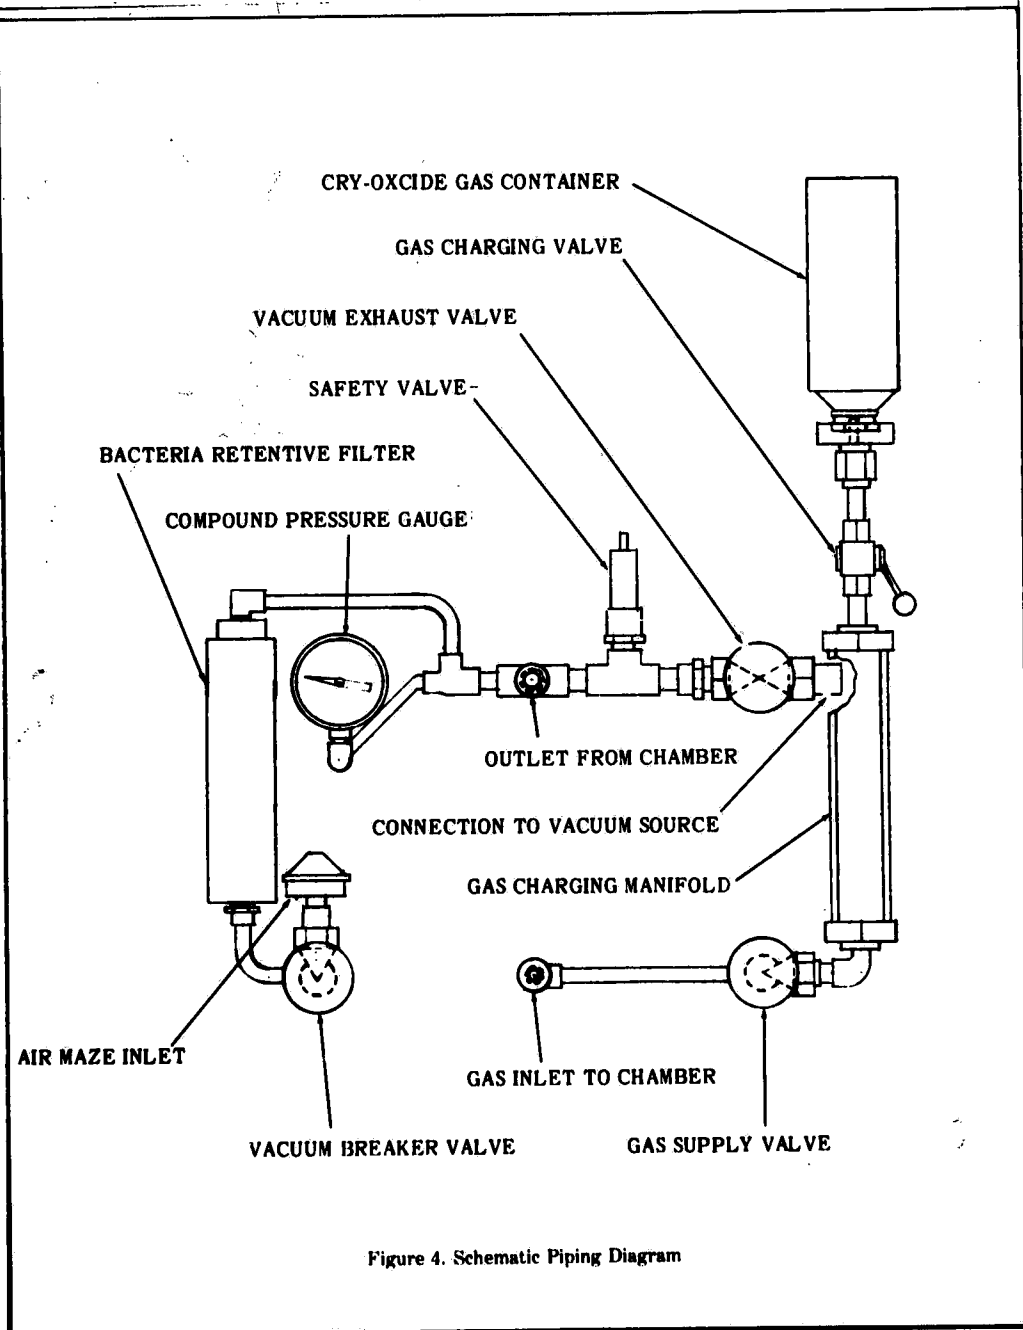

Figure 4. Schematic Piping Diagram
A schematic diagram of the Portable Can-O-Gas Sterilizer piping system for gas charging, initial vacuum, terminal vacuum and vacuum breaker functions is shown in Figure 4. All valves are normally closed.
3. Bacteria Retentive Filter Replacement. Refer to Parts List Illustration Figure 7. Remove finishing jacket (25 Fig. 4) from base. Using a benzomatic torch heat straight fitting (3) securing vacuum breaker tube (12) at base of air filter (13). Remove tube (12) from fitting. Remove fitting (3) from base of filter. Holding elbow fitting (26) at top of the filter with a wrench, turn the filter to disengage it from tube elbow fitting. Install replacement filter assembly (13) by connecting to elbow fitting at top. Install straight fitting in base of filter. Insert tube (12) in fitting and make a gas tight solder connection with torch.